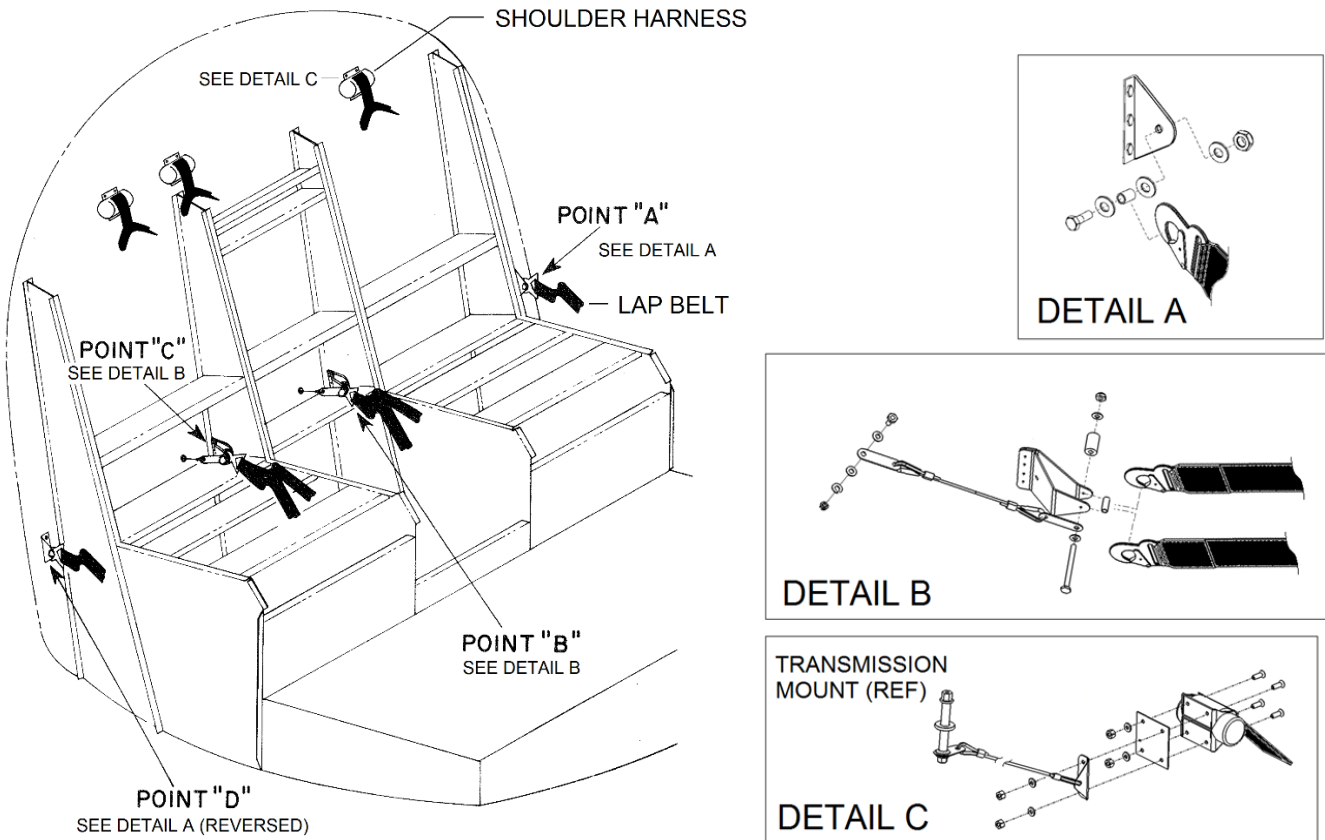

Figure 8-6. Seat Belt Attachment
A. Lap Belt Removal (Figure 8-6)
B. Shoulder Harness Removal (Figure 8-6)
1. Remove the fuel cells (para. 13-10, B, (1)).
- b. There are four structural attach points to accommodate two- and three-passenger configurations; (1) left rear cabin wall, (2) right of left center seat beam, (3) right of right center seat beam, and (4) right rear cabin wall.
- (a) Attach seat belt half with release mechanism to left rear cabin wall structural attach point. See Figure 8-6, Point "A".
- (b) Attach seat belt half with flat tab to structural attach point right of left center seat beam. See Figure 8-6, Point "B".
- (a) Attach seat belt half with release mechanism to the structural attach point right of left center seat beam. See Figure 8-6, Point "B".
- (b) Attach seat belt half with flat tab to structural attach point right of right center seat beam. See Figure 8-6, Point "C".
- (a) Attach seat belt half with release mechanism to the structural attach point right of right center seat beam. See Figure 8-6, Point "C".
- (b) Attach seat belt half with flat tab to right rear cabin wall structural attach point. See Figure 8-6, Point "D".
2. Install the fuel cells (para. 13-10, B, (2)).